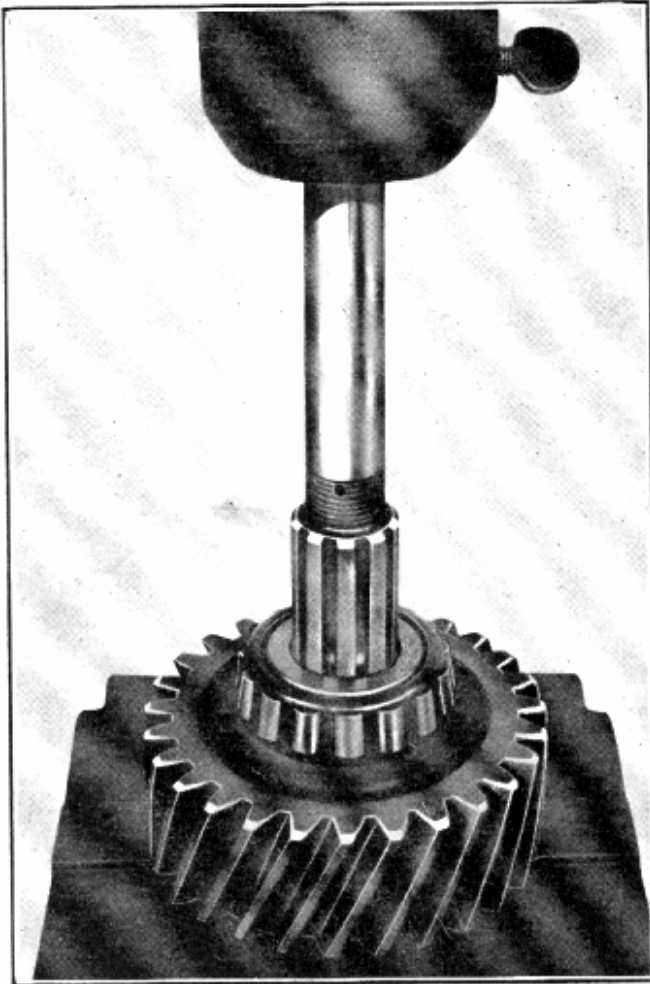

Fig. 6—Removing Gear and Bearing from Shaft in Arbor Press
2. Place the assembly in an arbor press, with the rear bearing upward and press the shaft from the gear and bearing, as shown in Fig. 6.